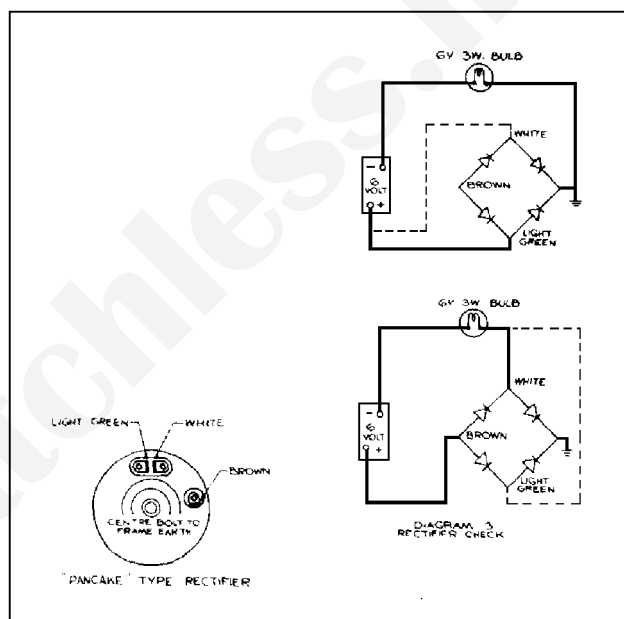

FIG. 95 A
For this test use a 6 volt battery connected to a 3 watt bulb and holder. Connect the battery and bulb holder wire across the rectifier as shown in diagram (A) (Fig. 95).